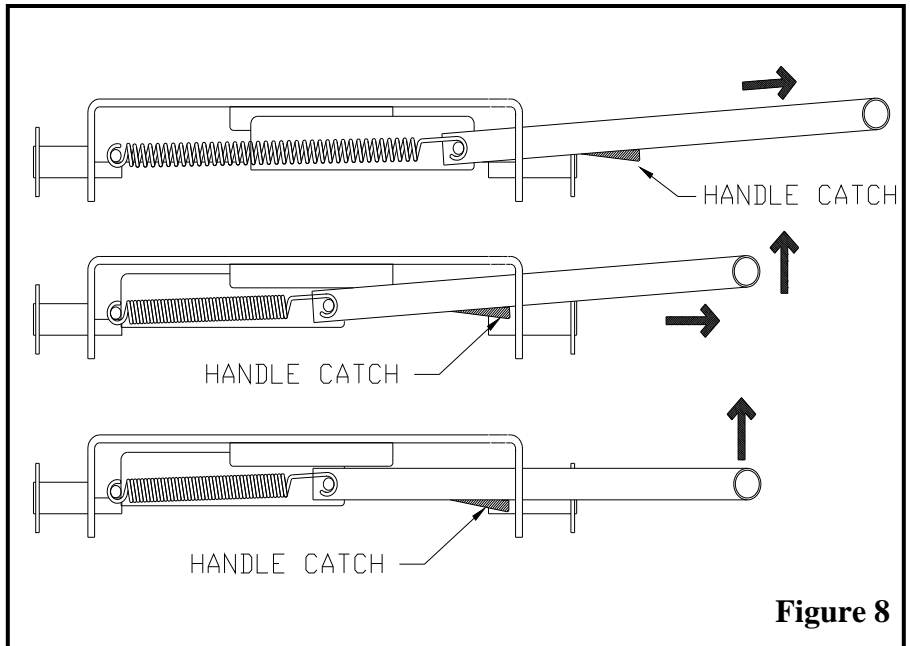

Figure 8
- 1) When the Plate (1) is in the upright position gravity keeps the Release Handle in the lower position and the Handle Catch is then located on the inside of the outer casing of the Plate (1). See the lower drawing in **(Figure 8)**
- 2) To open the Lock Jaw Assembly, lift the Release Handle and pull it toward you until the Lock Catch engages the Lock Jaw Assembly **(Figure 8)**.
- 3) As the King Pin moves into the Plate (1), it will contact the Lock Lever forcing the Lock Catch to disengage the Lock Jaw Assembly, allowing the Main Spring to pull the Lock Bar to the closed position. The gear teeth of the Lock Bar engages the gear teeth of the Lock Jaw Assembly and causes it to close behind the King Pin.
- 4) When the Lock Jaw Assembly is completely closed, the Release Handle will also be fully retracted into the Plate (1) and the Handle Catch will fall down behind the outer casing of the Plate (1). In this position the King Pin is locked in the 5th Wheel Plate ready for travel.
- 5) To discourage theft or pranksters, place a padlock through the obround hole above the Release Handle, so it can not be raised enough to clear the Handle Catch. **(Figure 8)**
- 3) Open the Lock Jaw Assembly by first lifting, then pulling the Release Handle towards you. See **(Figure 8)** page 7.
- 4) Lower the trailer jacks until the bottom of the King Pin Box is almost free of the top of the 5th Wheel Plate (1). Make certain that the bottom of the King Pin is **not** so high that binding on the hitch Lock Jaw Assembly would result.
- 6) As the King Pin slides from the Plate (1), notice that the Lock Jaw Assembly remains open.